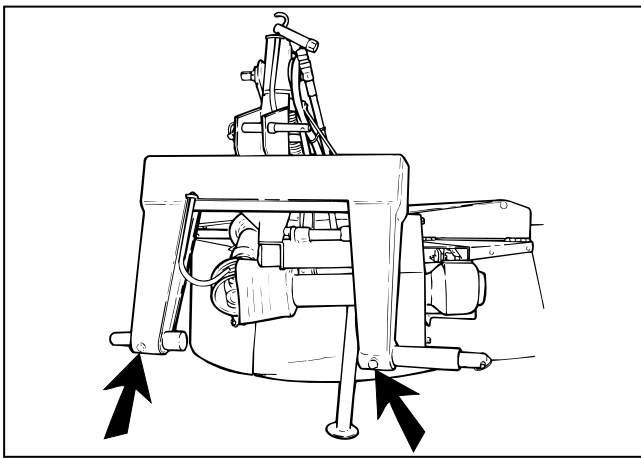

Fig. 2
**FIG. 2**        The tractor's lift arms are connected to the dowels on the top frame. The dowels can be adjusted in accordance with the tractor width by loosening the lock bolts. Then the top rod is mounted.